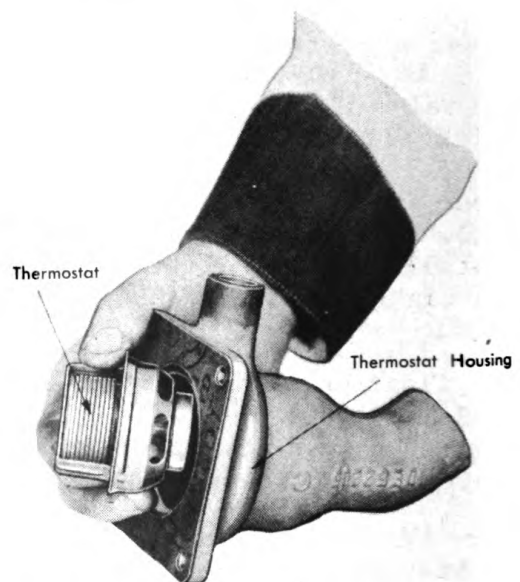

Figure 183. Thermostat and Housing.
22. Install the water outlet manifold with gaskets in place on the cylinder head. Insert the thermostat housing with the thermostat and gasket in place and tighten the four capscrews. See Figure 183.